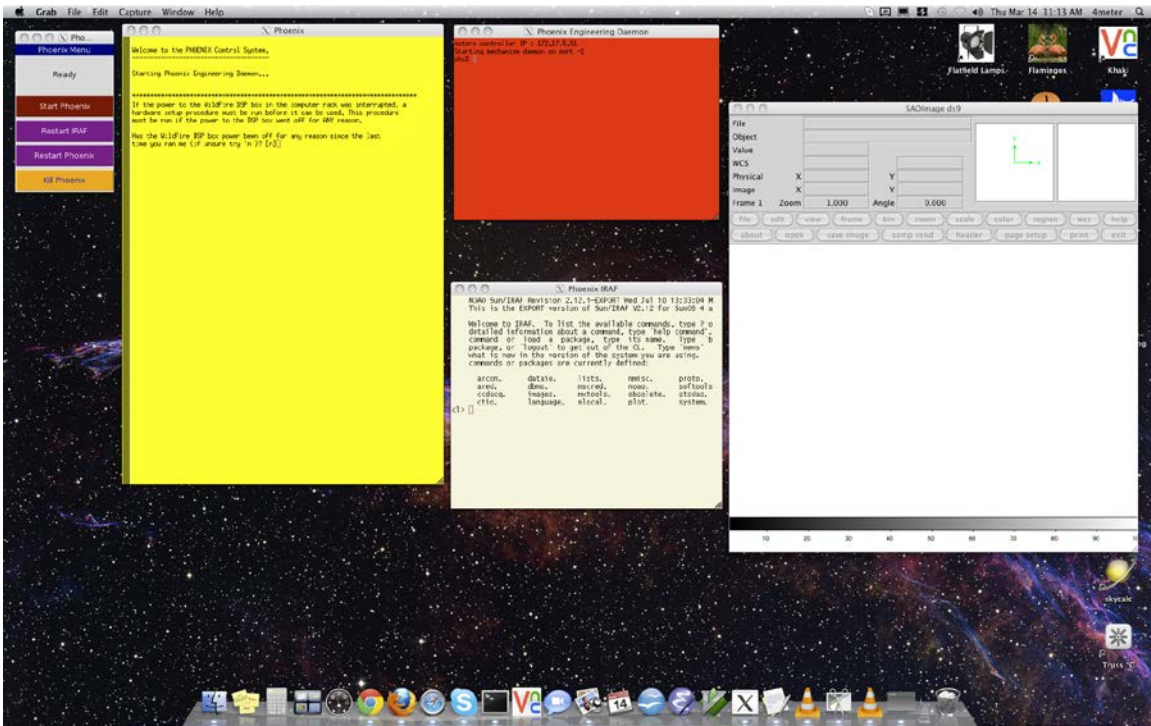

Figure 3: Second-2 monitor after commanding the Start Wildfire from the Menu GUI
2. Click on the “Start Wildfire” button. This will bring up four windows, as shown in Fig. 3. (Note: these windows have been resized and arranged to fit onto a single screen on the second-2 monitor for clarity).
5. Once the reboot is completed, click the “Start Wildfire” button on the Phoenix GUI (NOTE: the Instrument Power should still be OFF). This will bring up the normal startup configuration displayed in Figure 3.